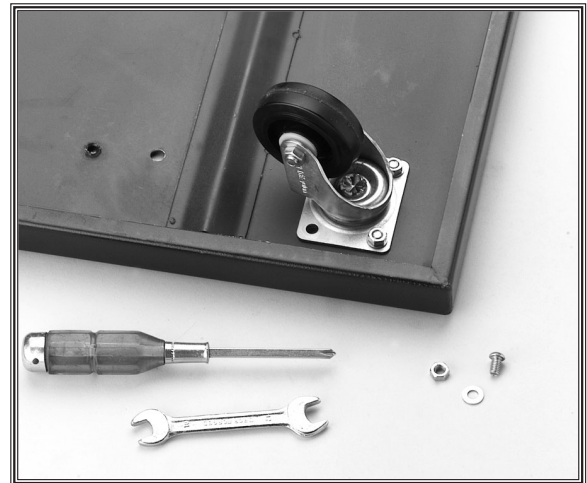

Figure 9. Caster installation.
2. Install the four swivel casters to the base plate with the sixteen M6-1 X 12 Phillip head screws, washers, and nuts (see Figure 9).